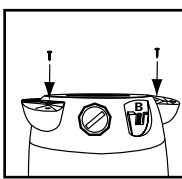

FIGURE 4
4. Secure with screws provided. **FIGURE 4**.